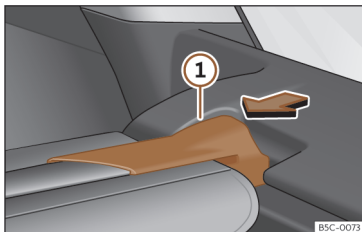

Fig. 122 In the luggage compartment: removing the shelf.
- Press the rear shelf support >>> **Fig. 122** ① in the direction of the arrow.
- Engage the support of the rear shelf >>> **Fig. 122** ① into the housing on the other side.